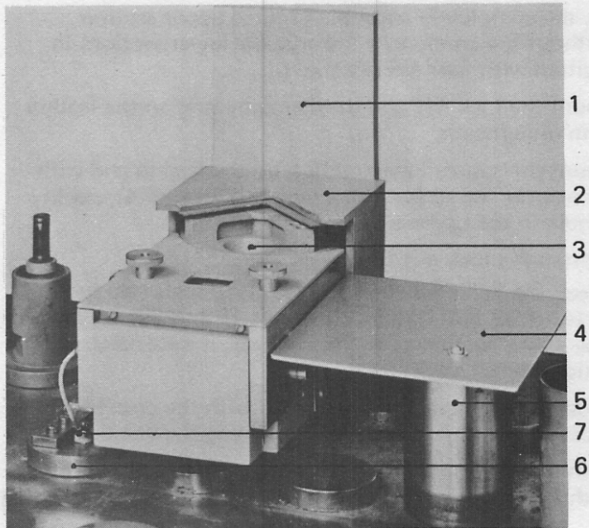

Fig. 13 Source complete with 4-way crucible
sary sheet (Fig. 13, item 4) is supplied with the source. After installation, cut the sheet to exact size to avoid arc-overs during evaporation.
- m. If there is sufficient space, bend the deflection (Fig. 13, item 1) about 90° backwards to crucible level. This will prolong the time intervals between the cleanings, particularly when larger amounts of material are evaporated (e.g. with pot crucible).
The high current lead-in (Fig. 13, item 6) acts as a current supply for the upper section of the anode (X-sweep). The lead-in must therefore be electrically insulated from the coating unit baseplate with 2 insulating plates, item 118 and 119 of the spare parts list BB 800 041 E / 6 and an insulating
tube. If the underside of the coating unit baseplate is coated with an insulating protective film (anodised or brushed on), an earth line must be connected from the gun lead-in to the fixing angle 3 of the high current transformer. The connection from the lead-in to the anode is made with the installation material supplied, in accordance with the arrangement of the gun and high current lead-in. The coil current lead-in is mounted in the high current lead-in Fig. 13.